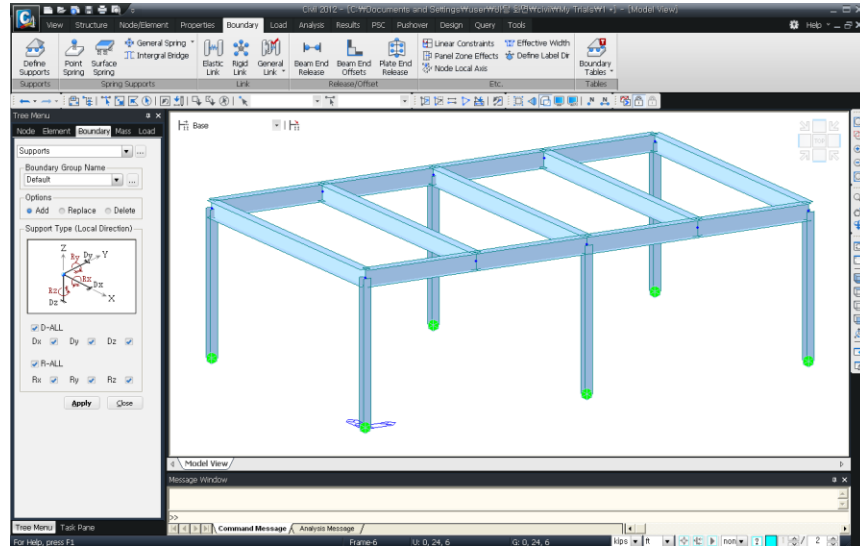

Figure 1.12 Data Entry for Structure Supports
1. Select the **Boundary** menu (Fig.1.12–.